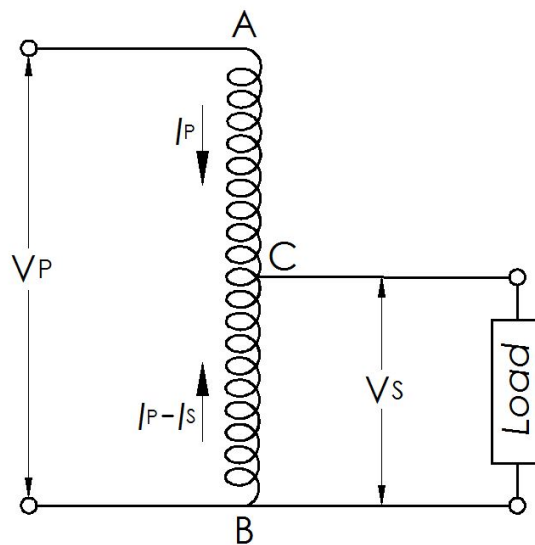

Figure 4.4 The auto transformer
**Figure 4.4** shows an auto transformer with one winding where AB is the primary winding and CB the secondary winding.